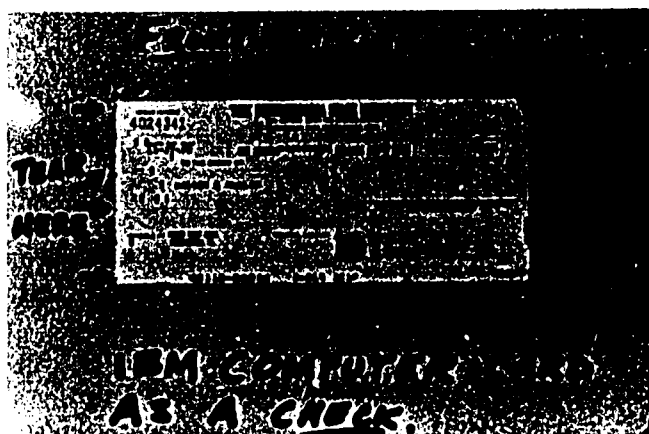

Fig. 57-1. Front of Computer Card Check
6. See Figs. 57-1 and 57-2 as alternatives to record as information.